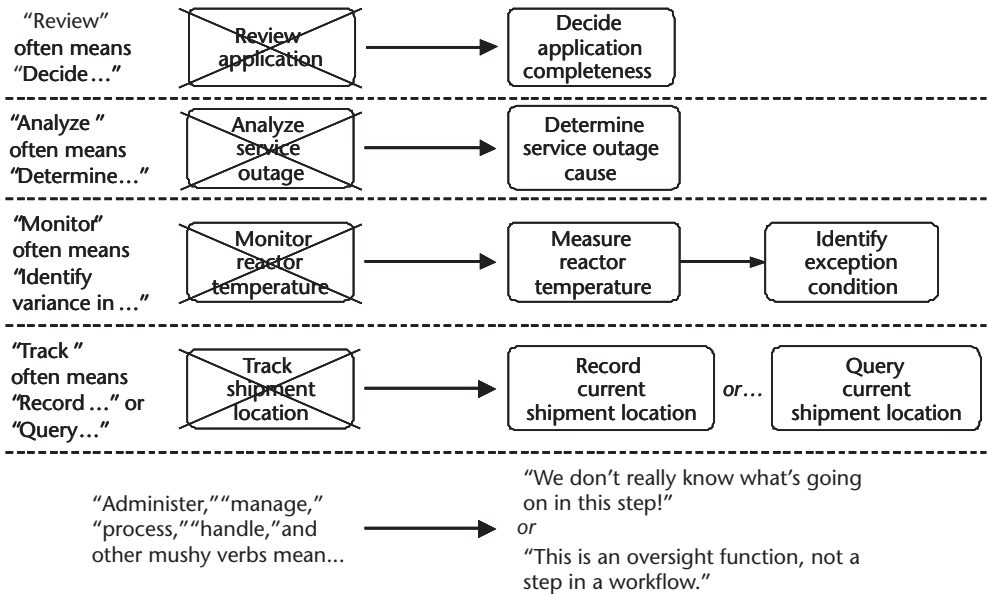

Figure 11.2 Question 2, “Does the name of the step convey the result of the step?”
2. "Does the name of the step convey the result of the step?" The purpose of this question is to ensure that there really is a legitimate step, the participants agree on what the outcome of that step is, and that the name conveys the result. Practically, this most often means ensuring that a "mushy" verb hasn't been used unless there is absolutely no other choice. Remember the list of "mushy verbs" from Chapter 5? Use it! Common ones we encounter are "process" or "handle," which say nothing, and "monitor" or "review," which are usually hiding decisions. Sometimes, before getting started on the five questions, we'll go through any obvious mushy verbs to accomplish an initial cleanup before starting the more thorough, step-by-step evaluation. See Figure 11.2.